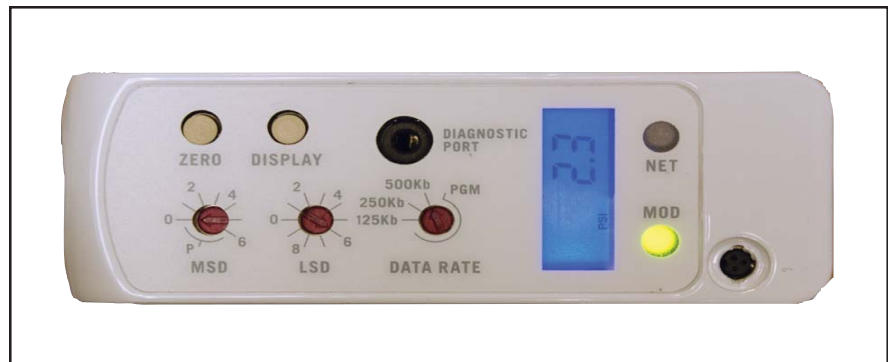

Figure 2-6 Display with PSI Reading
2. Looking at the top of the GF100 Series, press the "Display" button, starting at the MACID, four times to "PSI" or five times to "kPa" or until the LCD displays the labels "PSI" or "kPa". The GF100 Series will display pressure in units of PSIA or kPa. Press and hold down the Zero button a minimum of 5 seconds or until the display reads 0.000, with the last two digits flickering at different values. The pressure transducer zeroing procedure can be done while the display is either in PSIA or kPa output. Refer to Figure 2-6.